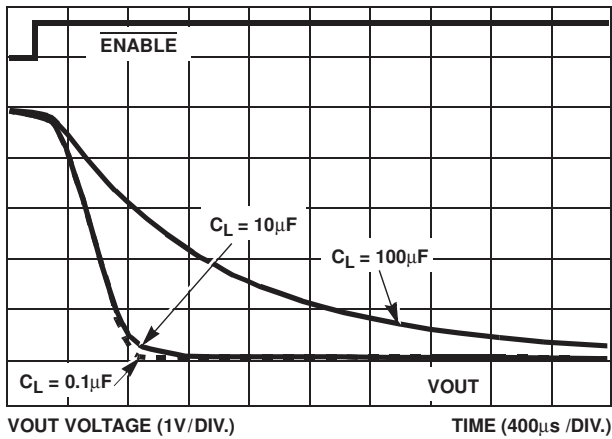

FIGURE 8. SLOW TURN -OFF vs  $C_{LOAD}$ ,  $R_I = 10\Omega$
The ISL6436 has two shutdown modes. When turned off with a load current less than the current regulation (CR) level the ISL6436 shuts down in a controlled manner using a 500nA constant current source controlled ramp. When latched off due to CR and the timer has expired, the ISL6436 quickly pulls down the output thereby quickly removing the faulted load from the voltage bus. See Figures 8 and 9 for waveforms of each mode.